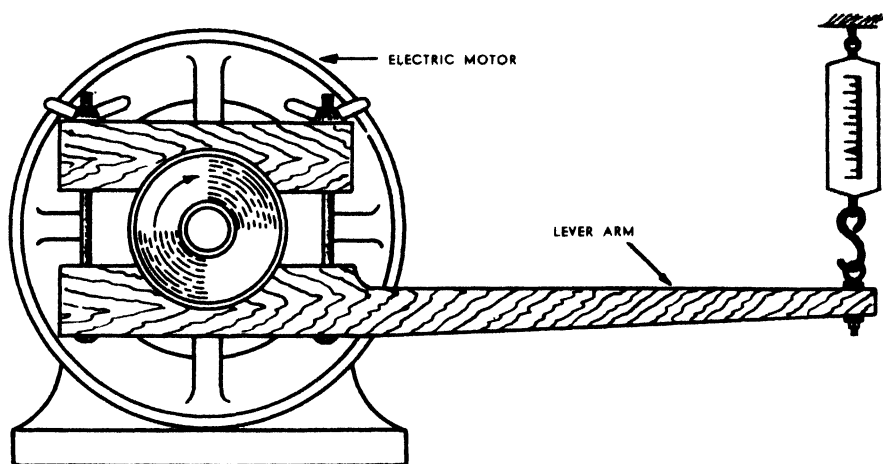

FIG. 27. PRONY BRAKE.
1) *The brake absorption method. (Brake Horsepower.)* The prony brake (Fig. 27) is used to determine the horsepower of a motor. By this
Set up the prony brake as shown in Fig. 27. Start the motor with the brake shoes loosened, then gradually tighten the brake shoes until the motor is under load. Read the spring balance. With a speed indicator and watch, determine the r.p.m. of the motor. Measure the length of the lever arm from the center of the shaft to the center of the screw eye.